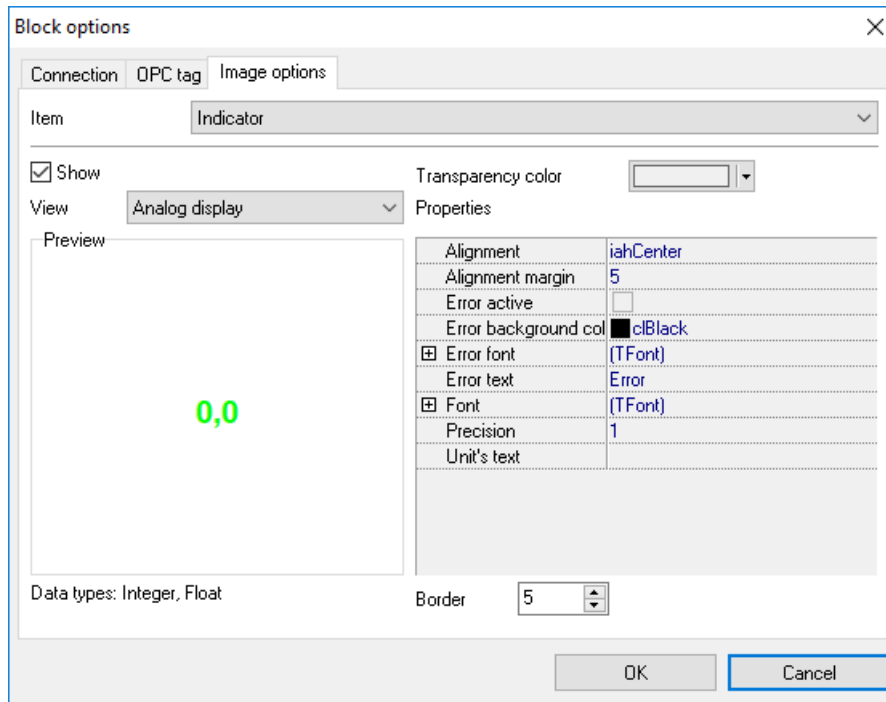

Fig. 5. Display parameters.
After you select the tag, you should configure the display parameters for this tag. Depending on the tag data type, certain indicators will be available. To configure the display parameters, you should select the "Display Parameters" tab (fig.5).
3. **Indicator** - the value of the tag can be displayed with the help of various indicators. The program offers more than 20 types of various indicators. Each of them has its own set of display parameters that are displayed as a tree in the fig.5. You can preview changes in this tree of parameters in the preview window to the right from the tree of parameters. Data types the selected indicator can be used for are shown under the preview window;